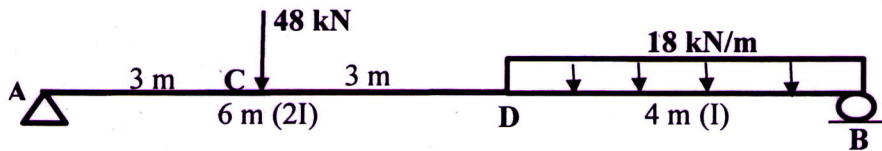

Figure 3
- 13 **Figure 3** shows a loaded beam of span 10 m. Compute the vertical deflection at D using unit load method.  $E = 200 \text{ GPa}$  and  $I$  is  $60 \cdot 10^6 \text{ mm}^4$ . 14